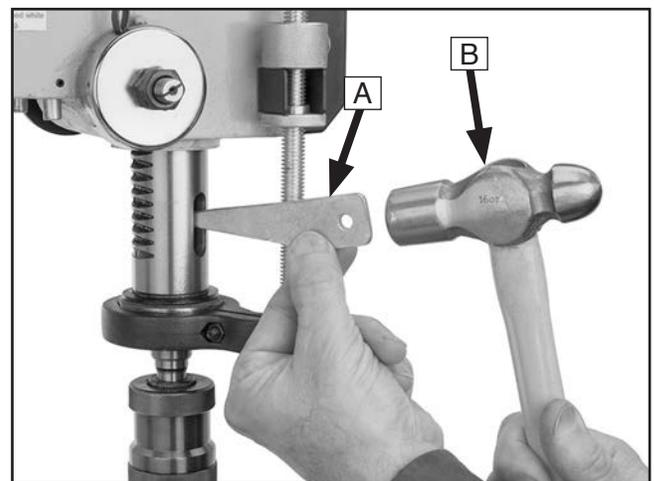

Figure 21. Example of using drift key to remove arbor from spindle.
5. Insert drift key (see **A** in **Figure 21**) into drift key slot, then tap drift key with metal hammer (see **B** in **Figure 21**) until chuck released.